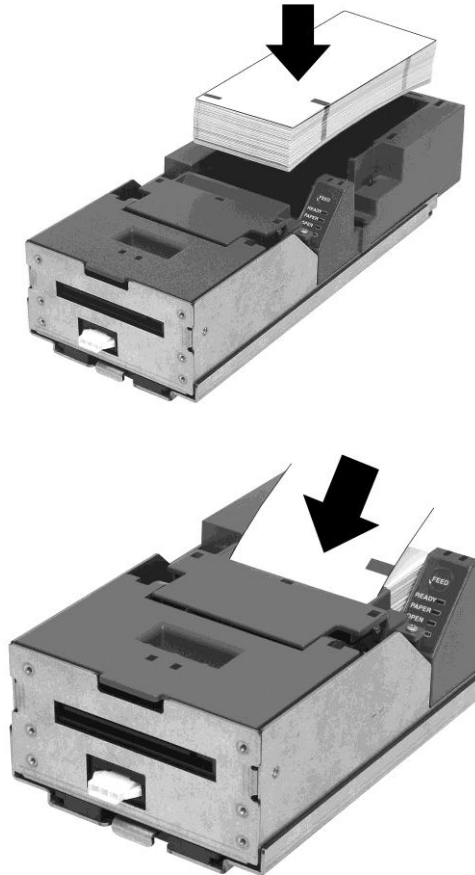

Figure 3: Ticket Loading and Ticket Feed Mechanism
- Load tickets into the ticket supply bucket, making sure that the Black Dot is positioned as shown in Figure 3.